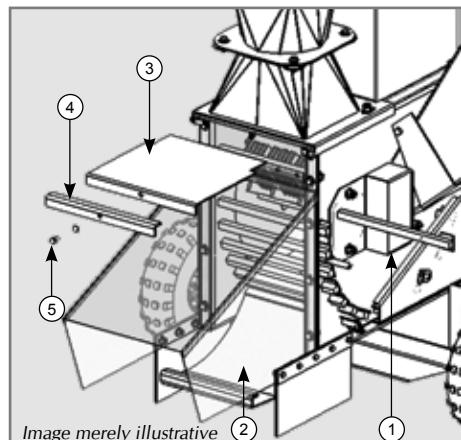

Fig. 1
Several square, removable rods are secured to the lower outlet (1). When you remove the upper rod, a tilting plate (2) directs exiting shredded material downwards. To use this outlet, you will have to attach a closing plate (3) to the upper outlet. The corner (4) needs to be removed - loosen the screw (5). Assemble the closing plate (3) on its place so that the upper outlet remains closed (Fig. 1).